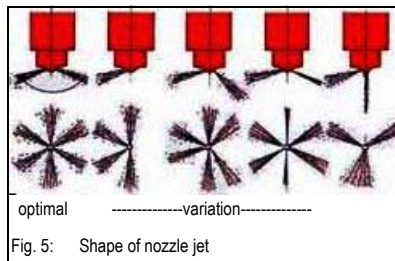

Fig. 5: Shape of nozzle jet
- ☞ The nozzle jet must create a shape on the paper as shown in fig. 5/1.